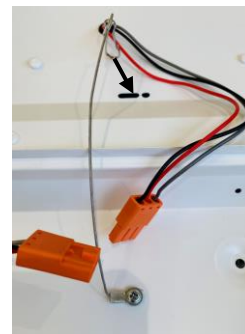

Figure 5
C. Note that the LED Tray is tethered to the base with a cable at each end of the unit. If desired, during installation and wiring the LED Tray can be removed from the housing by unplugging the quick-connect on the wires leading to the Tray and unhooking the two cables tethering the Tray to the housing (fig. 5). If the Tray is removed, place it in a safe place until the mounting and wiring is completed.